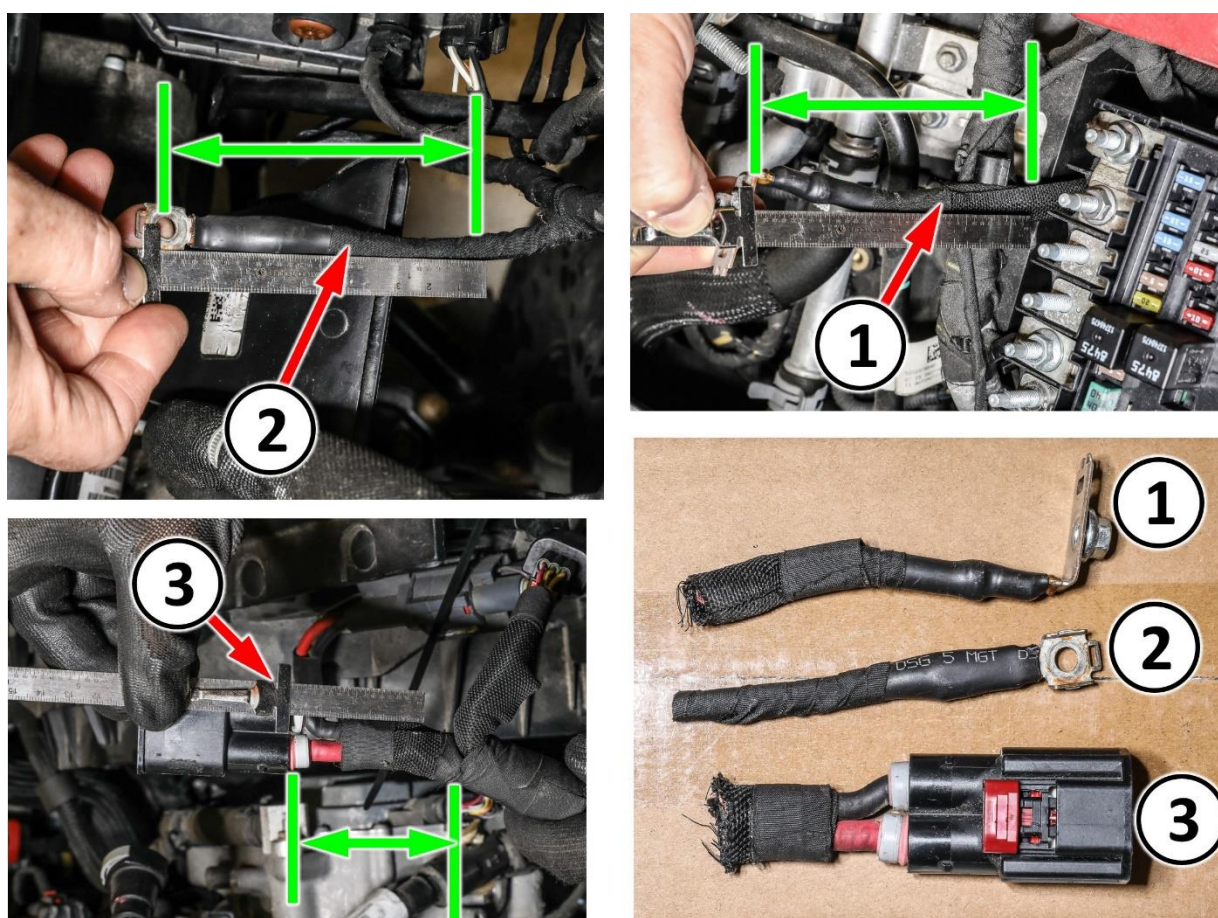

Figure C8 – Remove EHPS Wire Harness Terminals
28. After verification, cut EHPS power supply eyelet D6630J approximately 4 inches behind eyelet 90-degree bend and set aside for return **with pump** (Figure C8).
29. After verification, cut ground eyelet G908A approximately 4 inches behind center of eyelet hole and set aside for return **with pump** (Figure C8).
30. Cut 2way EHPS connector D2704A approximately 4 inches behind connector body taking special care not to cut through 3way connector D2704B circuits. Set aside for return **with pump** (Figure C8).